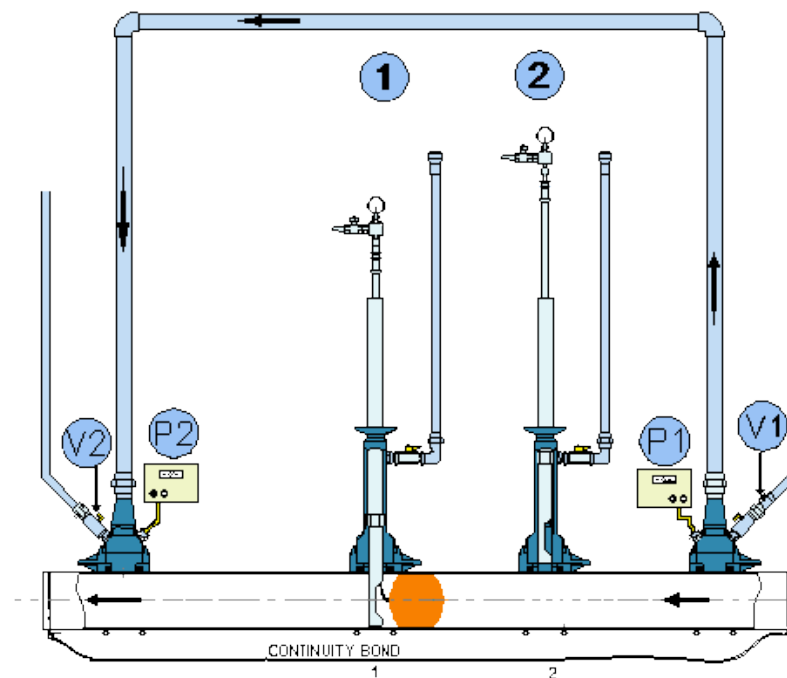

Figure 90- Installation of Bag 1
1. Fit a metallic vent to all bag tube assemblies refer to Figure 90.